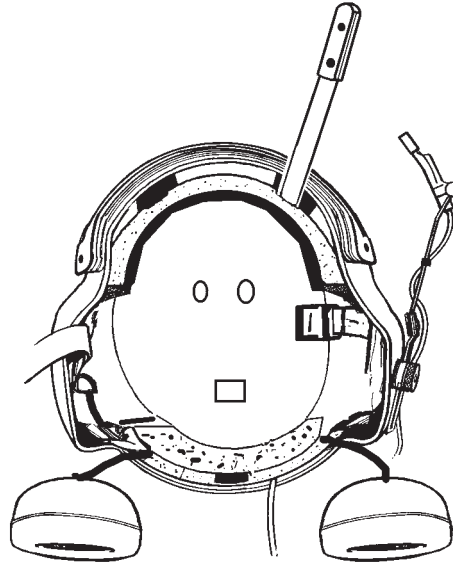

Figure 4-5. Removing Energy-Absorbing Liner
5. Referring to Figure 4-5, use a spatula to separate the hook-and-pile fasteners attaching the energy-absorbing liner to the helmet shell. Following the contour of the helmet shell, carefully slide the energy-absorbing liner out of the helmet.